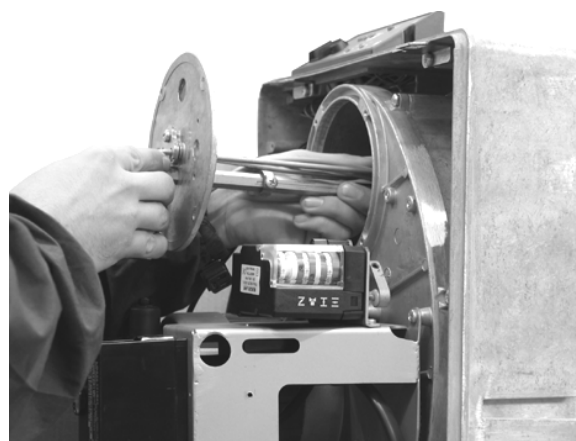

Fig. 25
- Remove the combustion head from its housing as shown in Fig. 25.